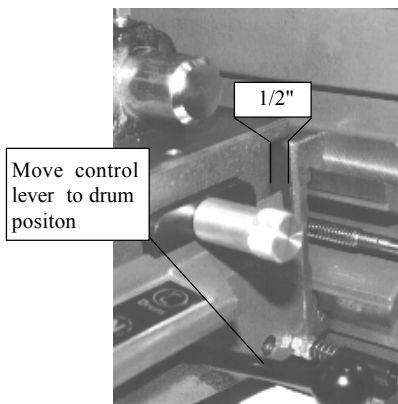

Figure 16
1. The Model 700 Combination Drum and Disc Lathe is equipped with a control lever on the carriage. This control lever must be in the drum position to machine a brake drum. See Figure 16.